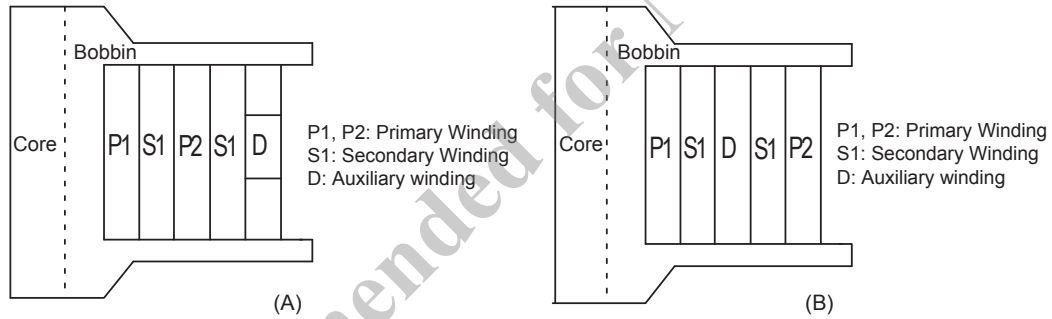

Figure 23. Transformer winding structures
Figure 23 shows two transformer design examples considered the winding location of the auxiliary winding D to minimize impact of VCC surge voltage. Triple insulation wires are used for either the primary or secondary winding, and thus no margin-tape is used:
- Separate the auxiliary winding D from the primary windings P1 and P2 (figure 23 (A)); P1 and P2 are two separated primary windings.
- Place the auxiliary winding D within the secondary winding S1 in order to improve the coupling of those windings (figure 23 (B)); S1 is the secondary output winding.